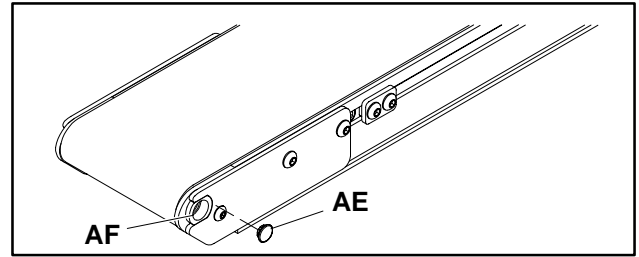

Figure 12
1. With a small flat-bladed screwdriver, remove plug (AE of Figure 12) from retainer (AF).